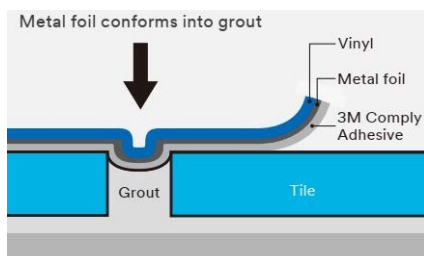

Figure 1. Metal Foil Conforms Into Grout
- Film is easily applied over existing tile, and conforms into grout areas (see Figure 1)